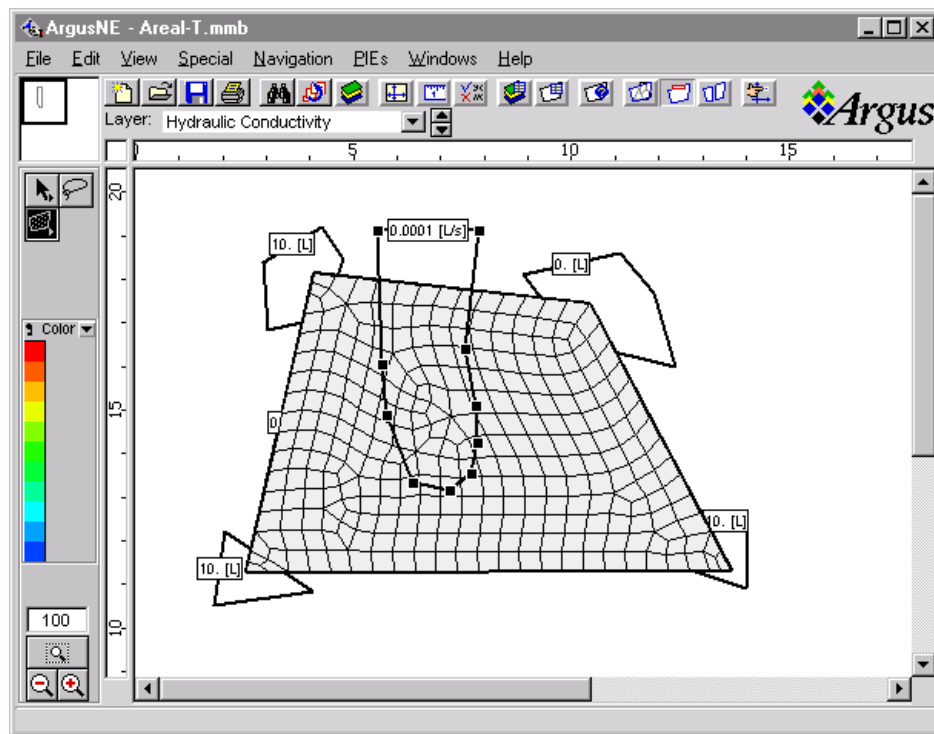

Figure 6. Low-Conductivity Barrier in Areal Solute Transport Step-by-Step Example
4. With the closed-contour drawing tool, create a closed contour that extends across one side and part-way across the model domain (see Figure 6) partly blocking the outflow lake. After closing the contour, enter the value 0.0001 for both the **maximum** and **minimum** values of hydraulic conductivity, and click **OK** in the *Contour Information dialog*. (Any contour object or region in the **Hydraulic Conductivity** layer has three parameters that contain the spatial distributions of maximum and minimum conductivity components and the angle of the maximum direction to the X-direction in the workspace. Thus, conductivity may be set to be anisotropic.) This decreases the conductivity of the region by ten times relative to the background value (0.001) used for conductivity.